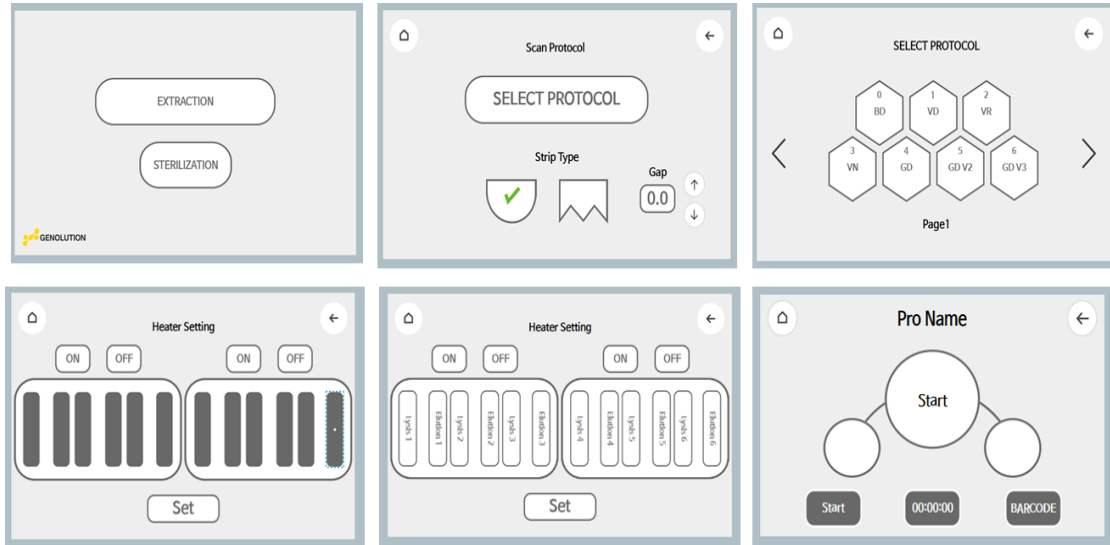

Figure 5: Protocol setting screens
10. Select Extraction → Select Round Strip Type → Select Protocol → Select SD → Touch the On / OFF button to select the heating region for the left and right plate loader → Press the Set button to complete the setting → START (Figure 5).